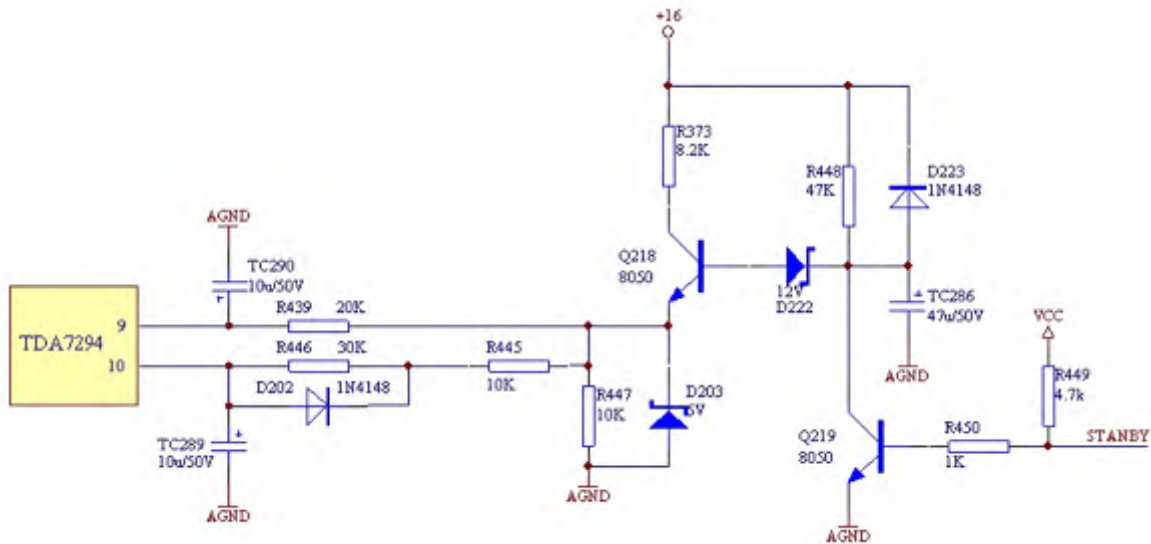

Figure 3.2.7.2 Left/right power amplifier channel mute circuit diagram
(1) Mute circuit special for left/right power amplifier channel is shown as the following figure 3.2.7.2:(2) Working principle of mute circuit special for left/right power amplifier channel: when there is no mute, STANBY signal sent out from U204 (SM79164C25P) is low level, which makes Q219 cutoff, now VH+ charges TC286 to make the positive direction voltage high level and then make base electrode voltage of Q218 high level through the function of 12V voltage regulator tube D222, now Q218 is on; the function of 5V voltage regulator tube D203 makes emitter electrode of Q218 5V and connect with mute